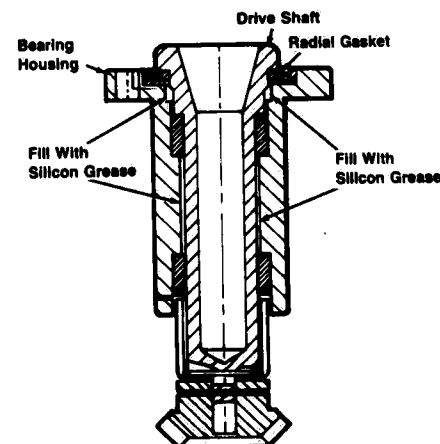

Figure 6-3. REPLACING DRIVE SHAFT.
1. Install radial gasket (2) on drive shaft (1).
2. Apply silicon grease to drive shaft as shown in Figure 6-3.
3. Insert shaft and shaft seal into bearing housing (4) from inside of chamber.
4. Secure bearing housing to chamber with three bolts (3).
5. From bottom of chamber, install washer (5) and keeper (6) on shaft.
6. Install bevel wheel (8) to shaft with pin (7) then close chamber door.